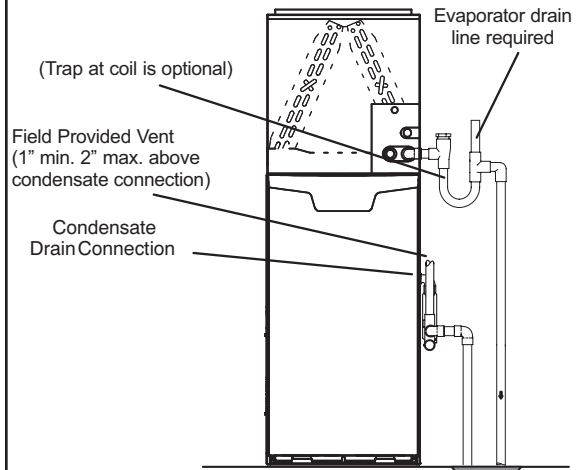
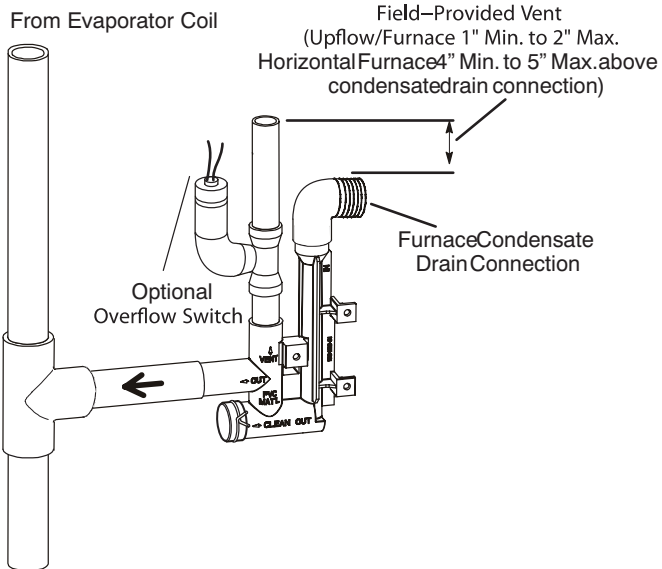
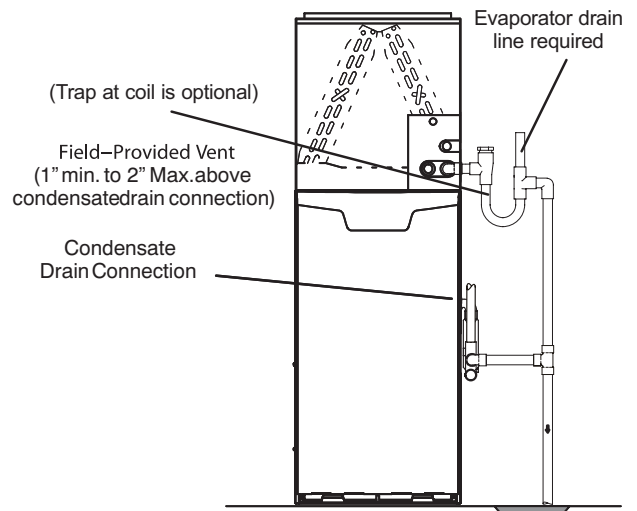
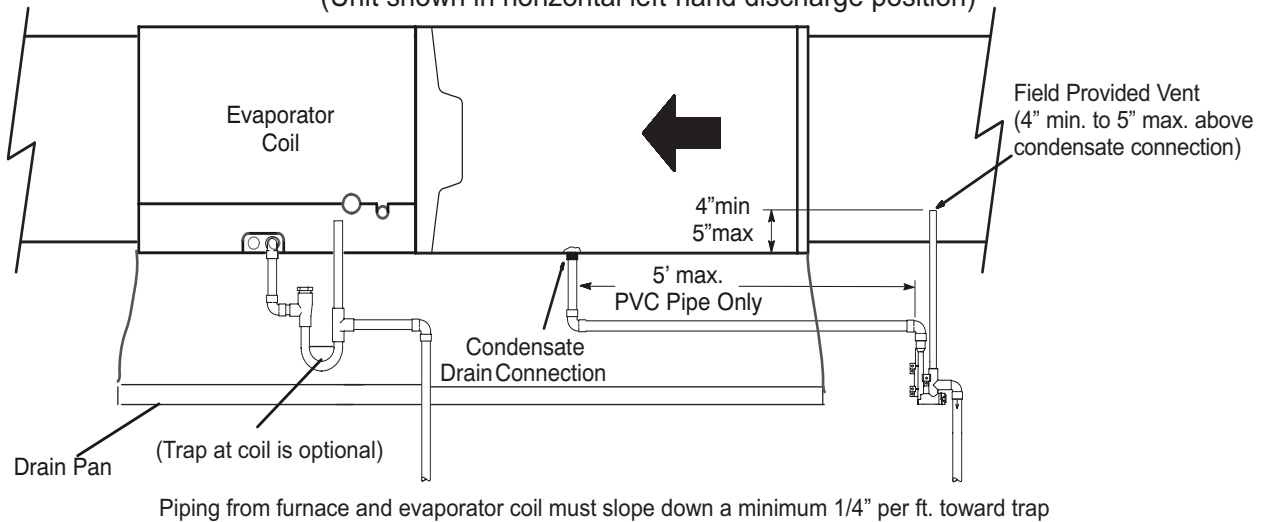

FIGURE 39
FIGURE 38
FIGURE 40
FIGURE 41
- 5 - FIGURE 39 and FIGURE 41 show the furnace and evaporator coil using a separate drain. If necessary the condensate line from the furnace and evaporator coil can drain together. See FIGURE 38, FIGURE 40 and FIGURE 42.
**Upflow furnace (FIGURE 40)** - In upflow furnace applications the field provided vent must be a minimum 1" to a maximum 2" length above the condensate drain outlet connection. Any length above 2" may result in a flooded heat exchanger if the combined primary drain line were to become restricted.
**Horizontal furnace (FIGURE 41)** - In horizontal furnace applications the field provided vent must be a minimum 4" to a maximum 5" length above the condensate drain outlet connection. Any length above 5" may result in a flooded heat exchanger if the combined primary drain line were to become restricted.